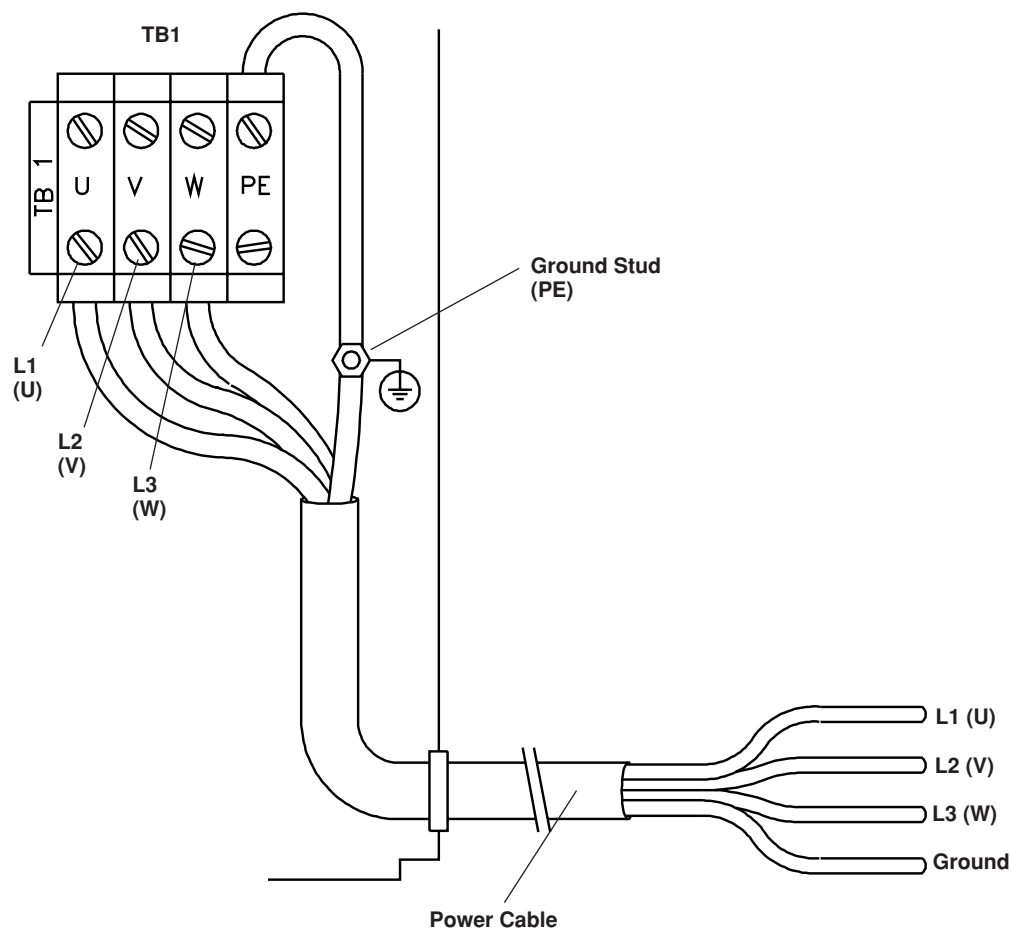

Figure 5-1 Primary Power Measurement Location
5. For a 200, 208, 240, 480, or 600- volt power supply measure the voltage at TB1 between L1 (U), L2 (V) and L3 (W). Refer to Figure 5-1 for detail of TB1. Also refer to applicable wiring diagram supplied with manual, if required. The voltage between any two of the three points at TB1 should be equal to the supply voltage (200, 208, 240, 480, or 600 VAC). If there is a problem at this point, disconnect main power and check connections, power cable, and fuses or circuit breaker at line disconnect switch. Repair and/or replace defective component(s) if necessary.